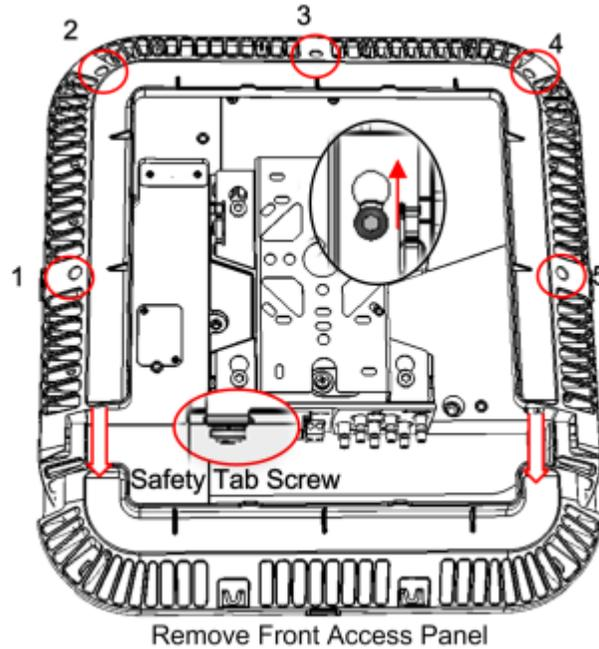

Figure 6-19. Removing RAU Enclosure Cover
1. Remove RAU front panel and then cover by removing the five screws indicated in Figure 6-19